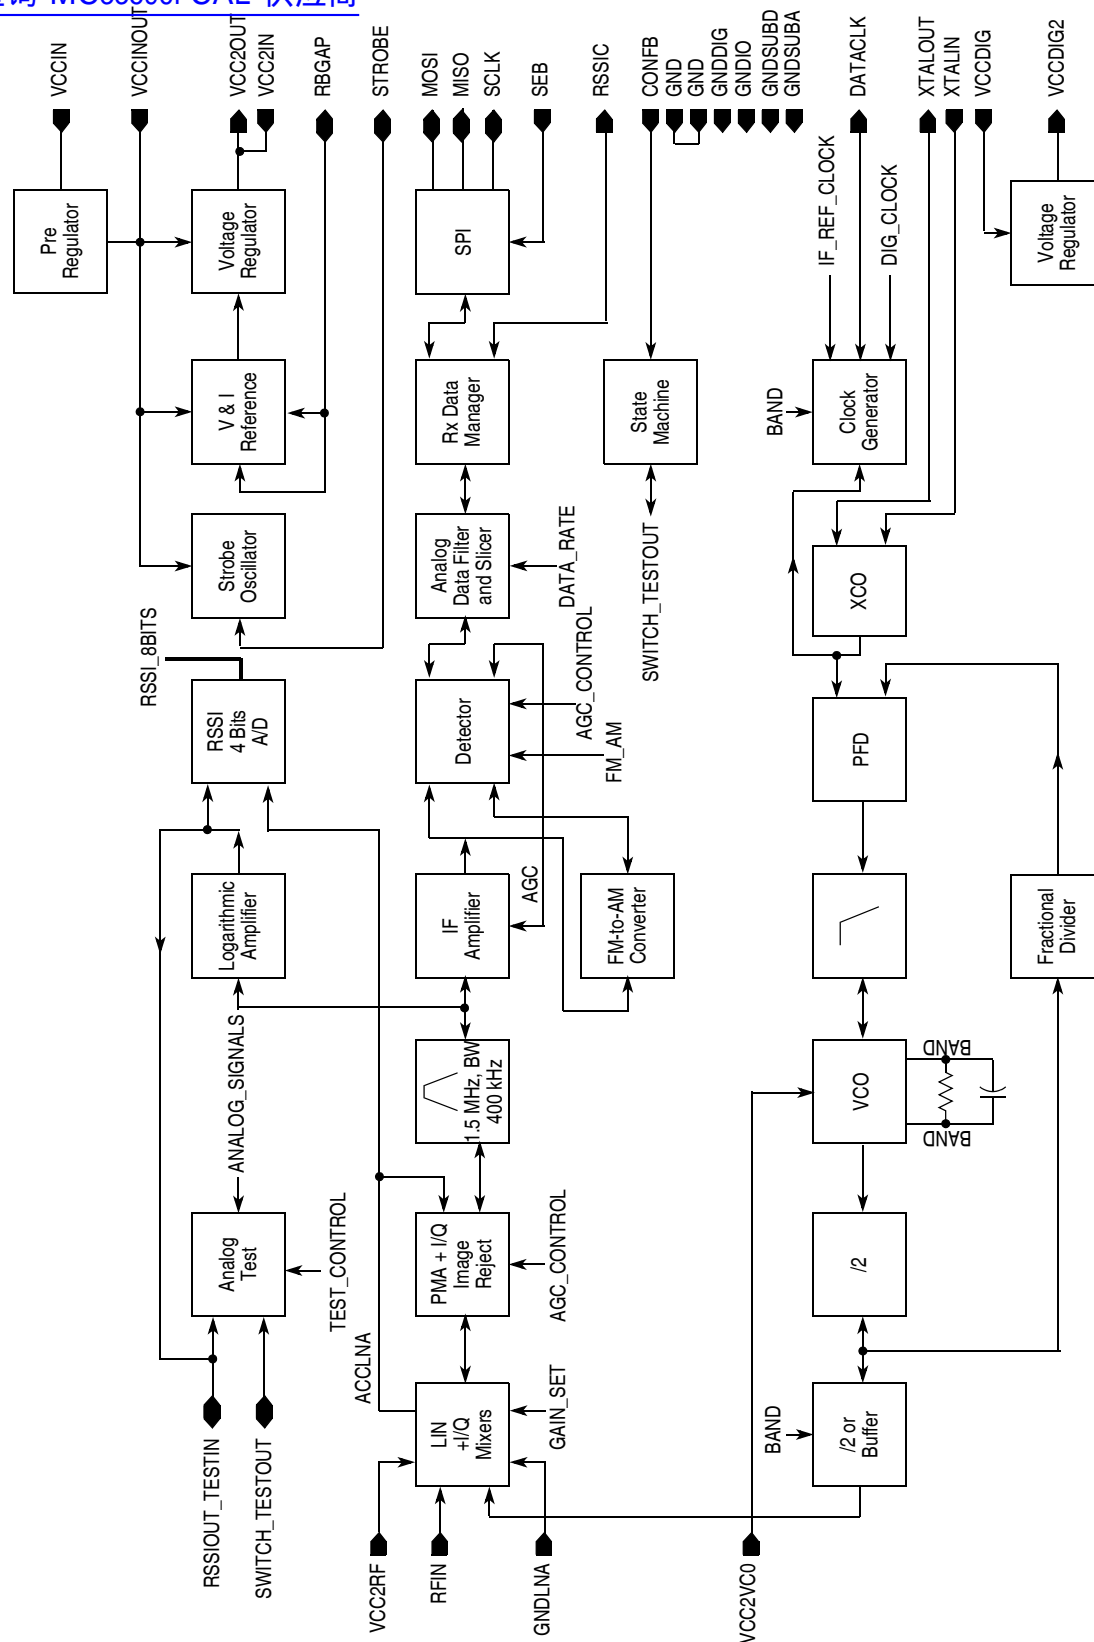

Figure 1. Block Diagram
The receiver is based on a superheterodyne architecture with an intermediate frequency (IF) of 1.5 MHz (see Figure 1). Its input is connected to the RFIN pin. Frequency down conversion is done by a high-side injection I/Q mixer driven by the frequency synthesizer. An integrated poly-phase filter performs rejection of the image frequency.